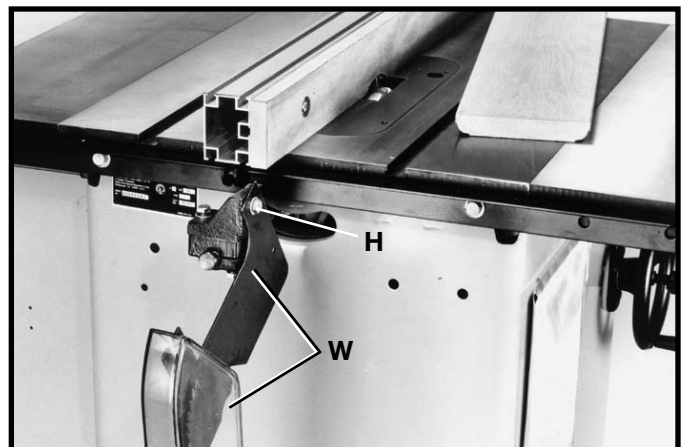

Fig. 133
**IMPORTANT:** For certain cutting operations (dadoing and moulding) where the workpiece is not cut completely through, the blade guard and splitter assembly cannot be used. Loosen screws (G) and (H) Fig. 132. Lift up and swing blade guard and splitter assembly (W) Fig. 133 to the rear of the saw and retighten (H). **CAUTION:** Always return and fasten the blade guard and splitter assembly to its proper operating position for normal thru-sawing operations as shown in Fig. 32 and 33.